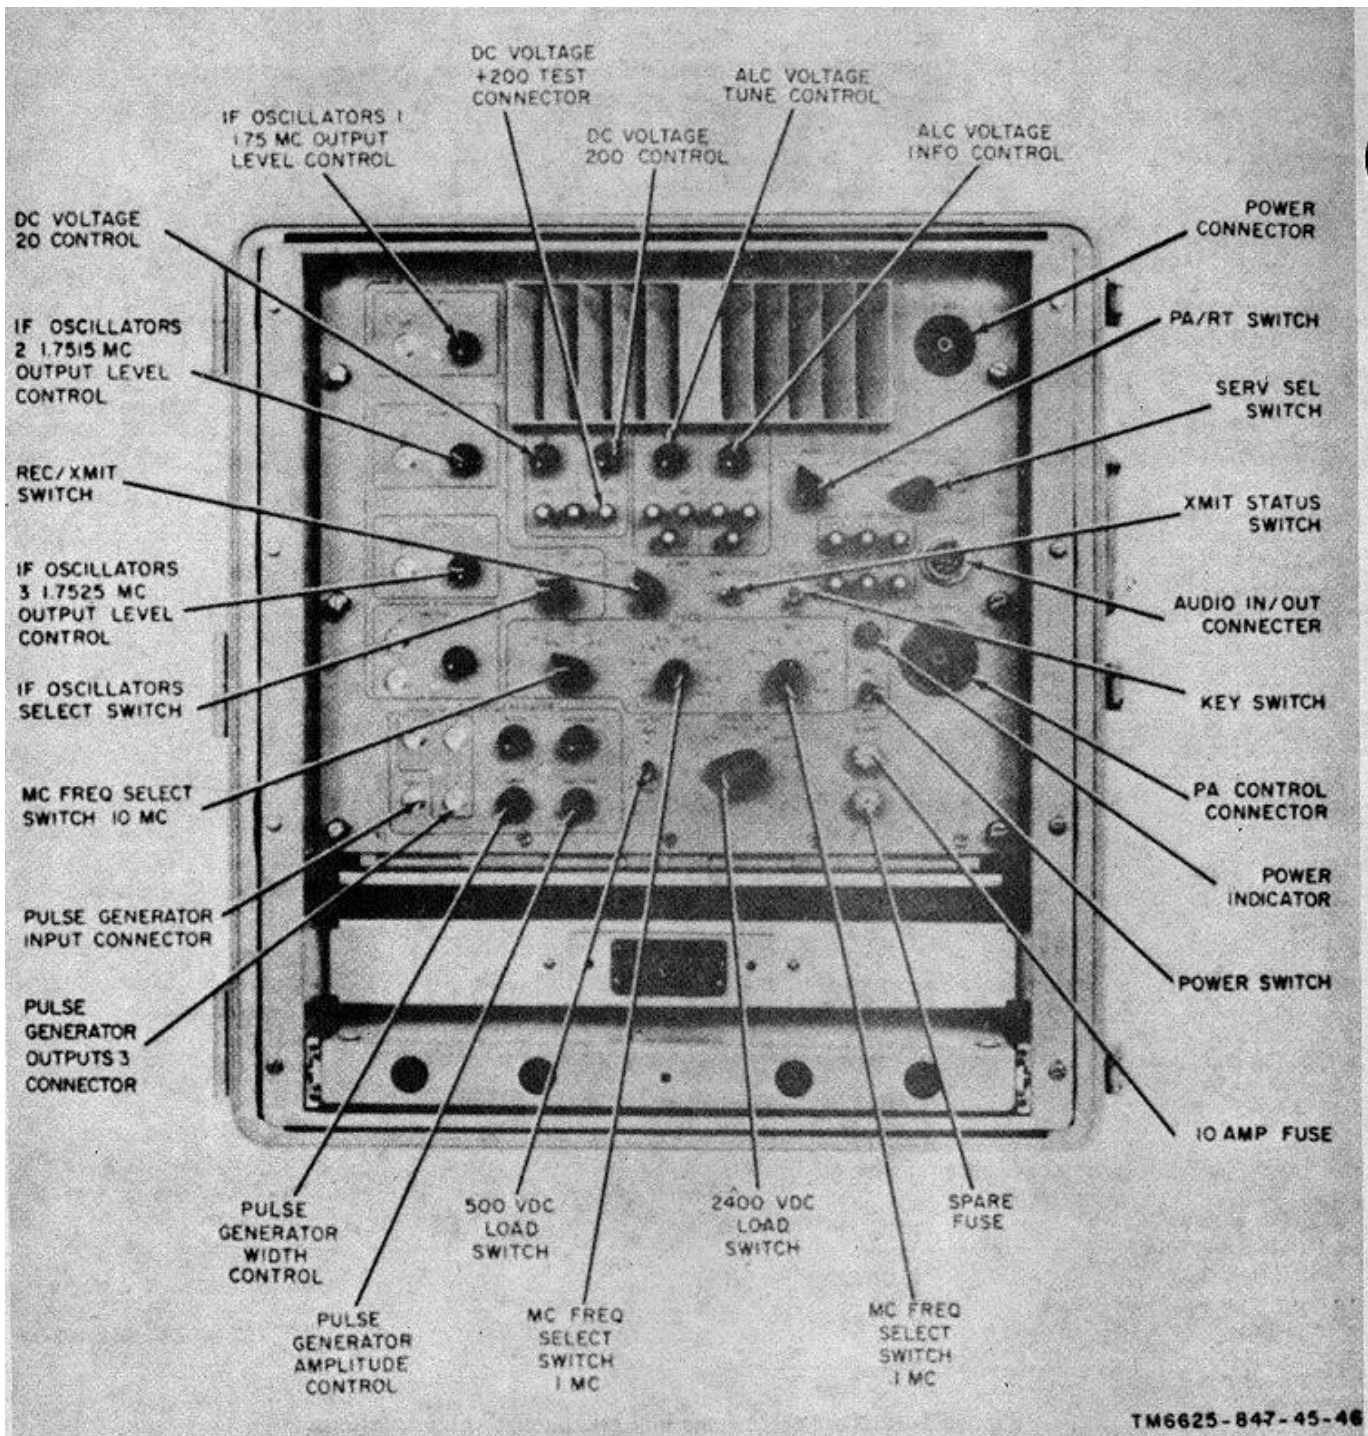

Figure 3-11. Test set A2, controls, switches, and connectors.
b. Loosen the setscrew securing each of the two WIDTH control knobs on the front pane (fig. 3-11 and 3-12). Remove the knobs from the panel. Loosen the setscrew securing each of the two AMPLITUDE control knobs on the front panel; remove the knobs from the panel.
- d. Mount each of the four knobs (figs. 3-11 and 3-12) on its shaft, and tighten the setscrews.
- b. Loosen the setscrew securing the output level control knob on the front panel (fig. 3-11). Remove the knob.